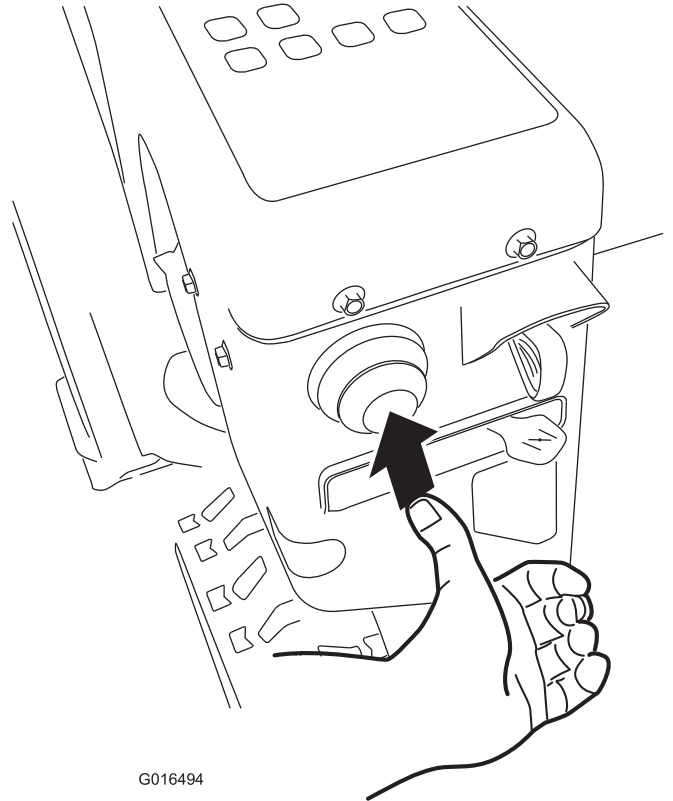

Figure 23
4. Firmly push in the primer with your thumb 3 times, holding the primer in for a second before releasing it each time (Figure 23).